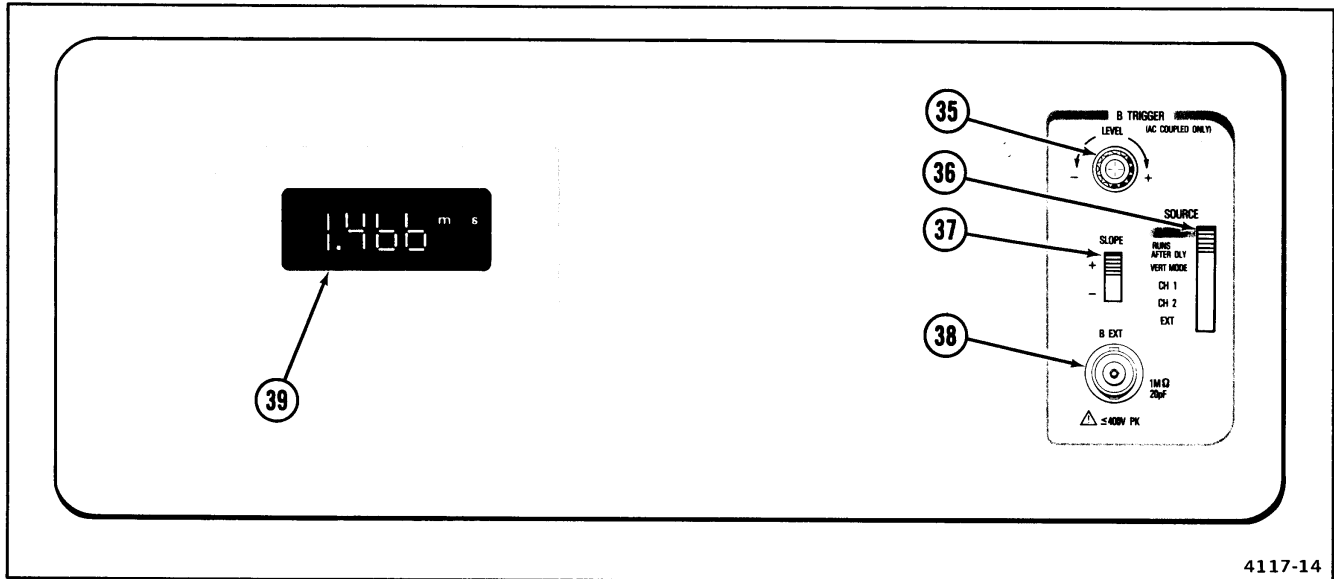

Figure 7. B TRIGGER controls, connector, and LCD readout.
Refer to Figure 7 for location of items 35 through 39.